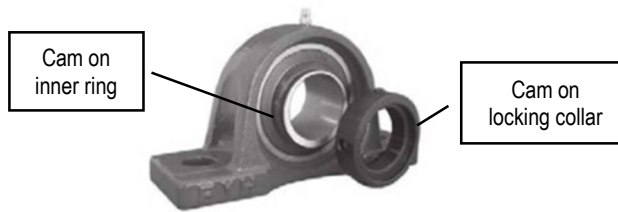

Figure 48: Bearing photo
- Slide the cam of the bearing locking collar over the cam on the inner ring of the lower bearing per **Figure 48**.